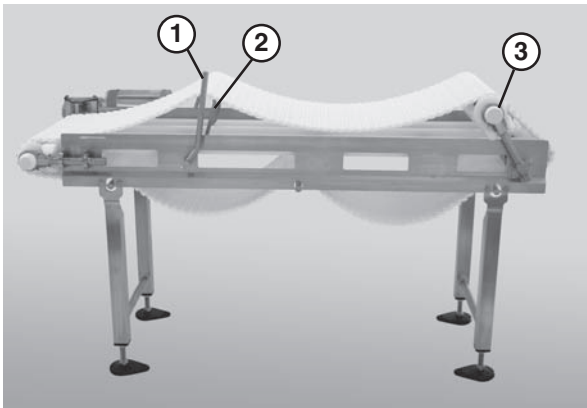

Figure 54
2. Use the lifter handle (Figure 54, item 1) to raise the lifters (Figure 54, item 2) and raise the tip up tail (Figure 54, item 3).